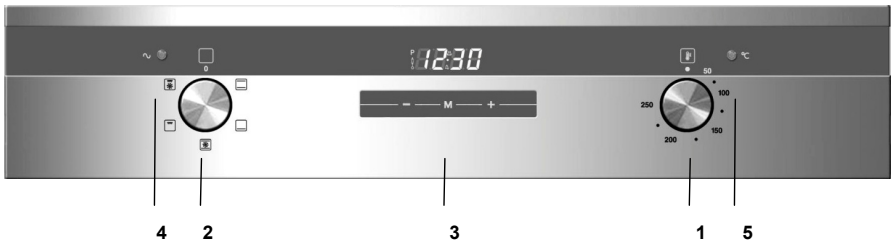

Figure 3.2
**ELECTRONIC PROGRAMMER with 3 touch control keys for 5-functions and 9-functions ovens. (Figure 3.2 and 3.4)**